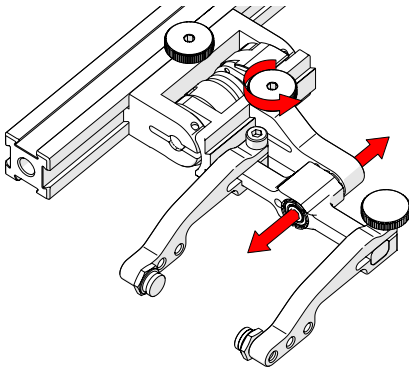

Fig. 169 - Adjust swing arm
3. Use swing arm knob to position the swing arm (Fig. 169).